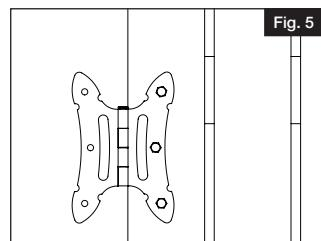

Fig. 5
- Fasten screws provided (Fig. 5).